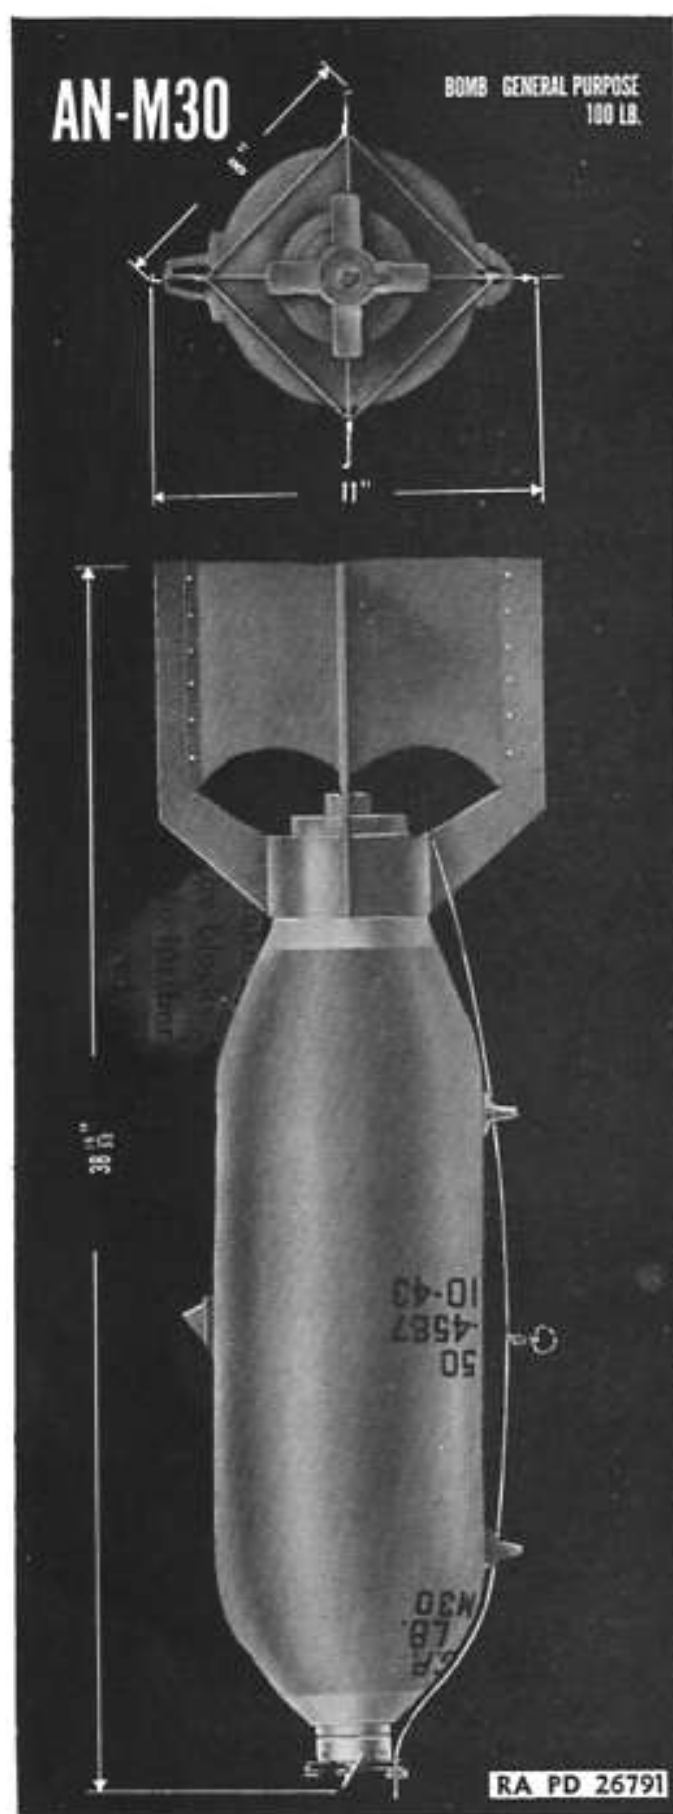

Figure 88. BOMB, G.P., 100-lb. AN-M30.
(3) Proceed to the assembly point.
(4) At the assembly point, cut shipping wire and remove fin lock nut and protector. Remove the protector from the lock nut.
(5) Place fin assembly over tail of bomb with one fin in line with suspension lugs. If bombs are intended for external racks, the fin is turned 45° from alignment with lugs. Replace fin lock nut and tighten with wrench or by hand.
(6) Remove nose and tail plugs and inspect the fuze seats.
(7) Deliver bomb to plane and install in accordance with instructions pertinent to the type of rack.
(8) Install fuzes and arming wire when bomb is securely locked in the rack. If space in the bomb bay does not permit fuzeing, fuzes should be assembled to the bomb at the assembly point.
(9) Remove such safety cotter pins from fuzes as have not yet been removed.
(10) If bomb is not dropped it will be unfuzed and returned to storage by reversing the steps listed above.
74. BOMB, G.P., 100-LB., AN-M30. **a. Data.** BOMB, G.P., 100-lb., AN-M30 (fig. 88) is a cylindrical bomb, which is 38.46 inches long and weighs 108 pounds, as released. The body is 30 inches in length